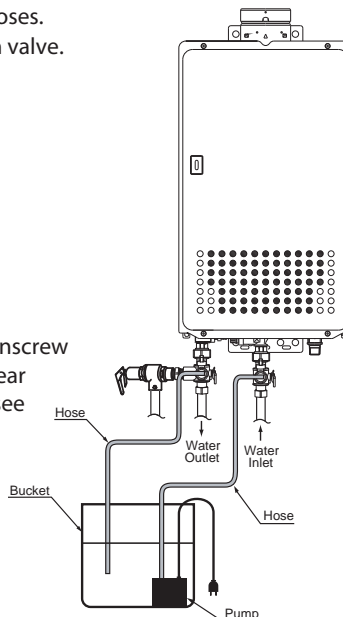

Figure 1. Flush Set-up
5. Connect the pump outlet hose to the cold water drain valve of the isolation valve as shown in Figure 1.
6. Connect a drain hose to the hot water drain valve outlet of the isolation valve as shown in Figure 1.